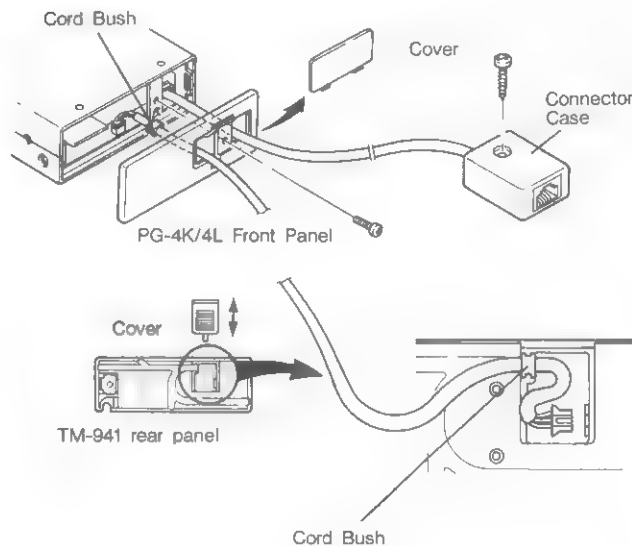
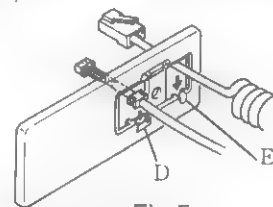

Fig.4
Fig.5
4. Remove the cover on the front of the PG-4K/4L front panel, and pass the microphone cable and front panel cable through the opening.(Fig.4)
5. Connect the PG-4K/4L microphone cable to the microphone connector. Push the connectors together until they click. (Fig.4)
6. Attach the PG-4K/4L front panel to the transceiver with a binding screw and replace the cover. (Fig.4)
7. Fit the cord bushing on the panel cable into the front panel (Fig.5-D), fix the panel cable, and install the cover. (Fig.4-A)
9. Slide the small cover off of the front panel unit as shown in the accompanying illustration.(Fig.4-B) Gently lift up on the cable near the grommet to disengage it from the front panel. Then gently pull the cable assembly to left to disconnect the white 4 pin connector. Push the white connector on the PG-4K/4L to right into the front panel socket.
Push the grommet down into its slot, and route the cable as desired in the slots on the rear of the front panel. Replace the cover to complete the cabling. (Fig.4-C)